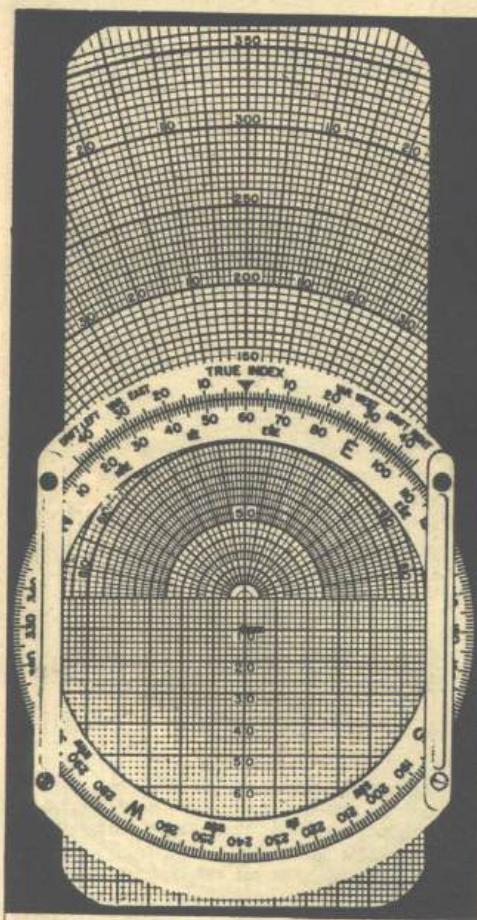

Figure 16-A
- (a) Set 60 degrees opposite the true index. Place rectangular grid under the plotting disk and draw a horizontal line 6 miles to the right of the grommet. (fig. 16-A)